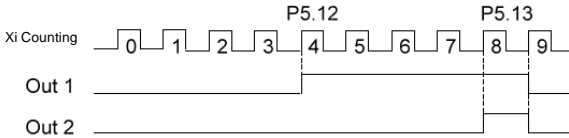

Fig.6-18 Schematic diagram for the preset and reaching counting value reference
2. The terminal Yi is set to "10: Preset counting value action", and the action sequence is shown as Out1 in Fig.6-18. Effective level will be output when the counting value is between the values of P5.12 and P5.13.
The terminal Yi is set to "11: Reaching counting value action", and the action sequence is shown as Out2 in Fig.6-18. Effective level will be output and kept till the counting value changes when the counting value